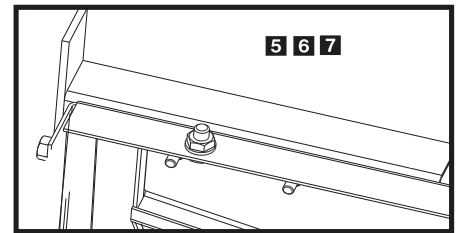

Figure 2: Frame Mounting Bolts
Step 4: Install rear stop bars using supplied hole patterns (see Fig.2). To achieve the best position, you may need to drill additional holes in bracket in order to properly position spreader.
Step 5: Now that the spreader is positioned front to back, you will now center it left to right. Looking at the inside front and rear corner of the lower frame area, you will notice (4) holes in the bottom of the frame. Using a paint pen or similar marking device, mark hole locations.
Step 7: Install and tighten all (4) bolts. (see Fig.2)